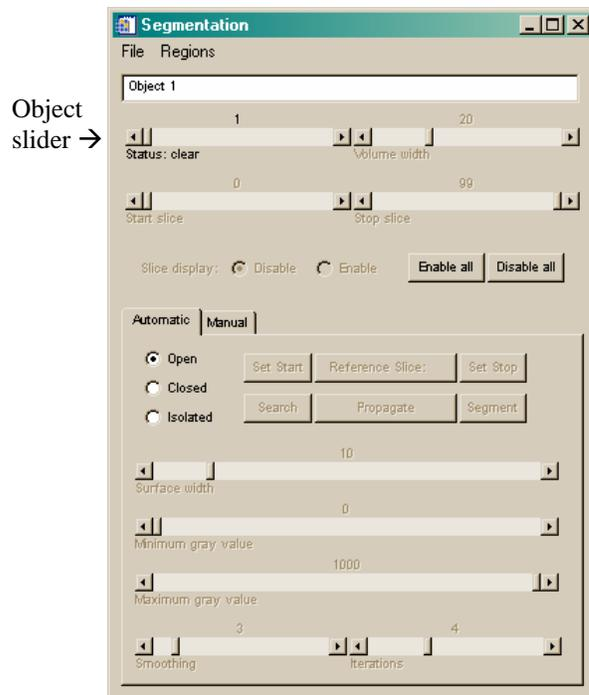

Figure 15: Segmentation Window
1. Using the **object** slider (Figure 15) in the **Segmentation** window, select the first non-segmented object, this will have the default label “Object 1” and Status: clear. Name the new object by entering text to replace the “Object 1” label with “*Presynaptic Membrane*” <Enter>.